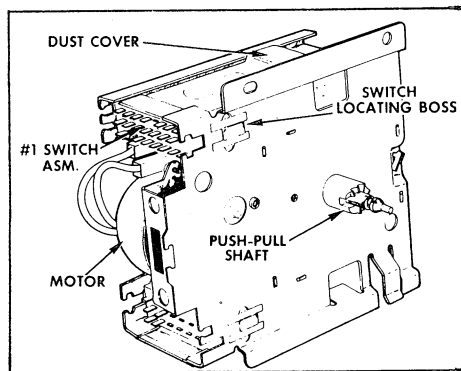

Figure 35A, Singer Timer, Front View
1. Remove 2 screws at top of timer, refer to Figure 35A.
2. Spread the 2 plates so that the switch locating bosses, Figure 35A, are free.